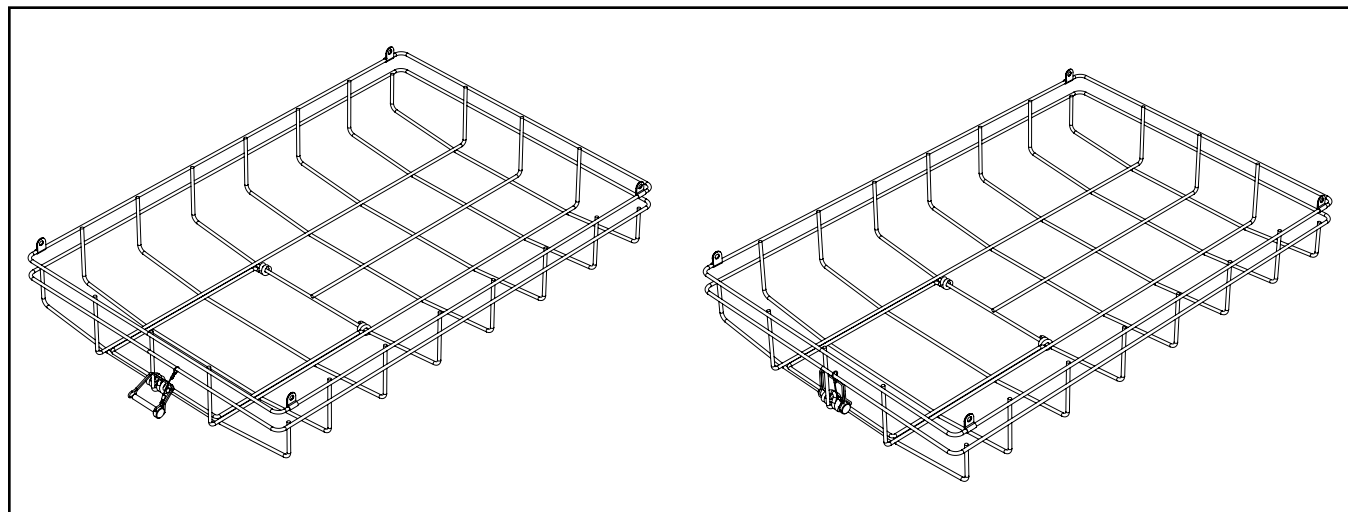

Figure 3.
3. With the sensor door in the closed position, insert the clevis pin through the hasp and staple, then lock the clevis pin by restoring its wire retainer into the locked position. (Figure 3)